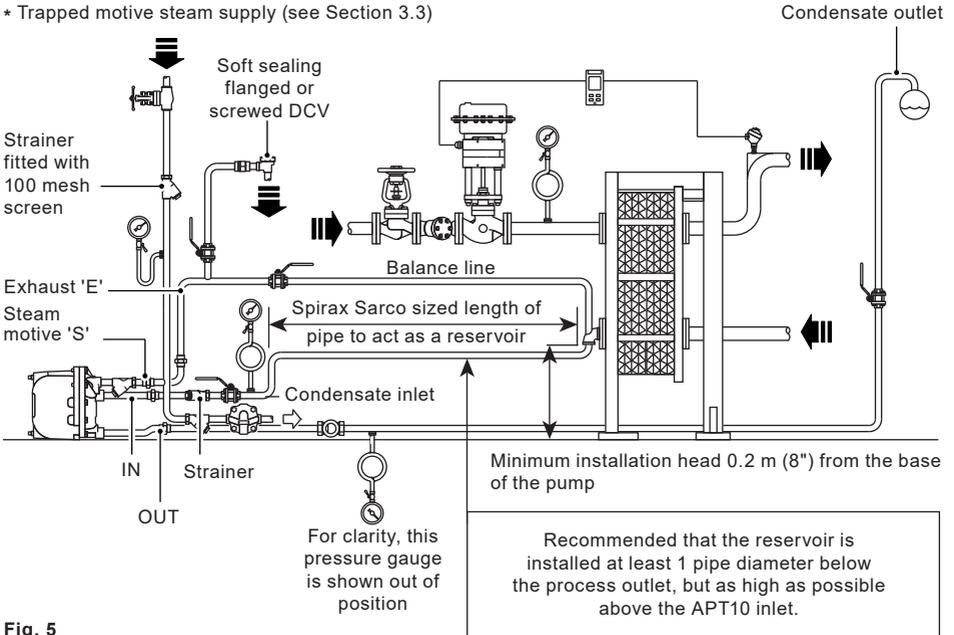

Fig. 5
To prevent condensate backing up into the equipment being drained, it is recommended that the inlet pipework is sufficiently sized to accumulate condensate during the pump's discharge cycle. Generally a length and diameter of pipe to accommodate 2.1 litres of condensate will be sufficient. It is recommended this condensate reservoir is situated at least 1 pipe diameter below the process outlet but as high as possible above the APT10 inlet. It is essential that a Spirax Sarco Y-type strainer with a maximum 0.8 mm perforation screen size is fitted at the condensate inlet of the APT10, as shown in Fig. 5.
The APT10 has four connection ports. The DN20 (¾") port marked (IN) should be connected to the outlet of the equipment being drained. The DN20 (¾") port marked (OUT) should be connected to the condensate return line. A flow arrow indicates the correct direction of flow. The DN15 (½") port marked (S) - steam should be connected to a trapped motive steam supply. *** It is important to ensure this line is drained of condensate at all times using a Spirax Sarco steam trap and filtered using the 100 mesh strainer supplied fitted to the pump trap, (see Fig. 5).** The screwed DN15 (½") port marked (E) - exhaust should be balanced back as close as possible to the condensate outlet of the equipment. This balance line must always be connected to the top of the condensate pipe; as shown in Fig. 5.